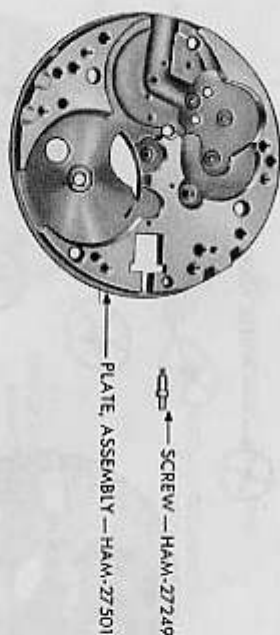

Figure 125 — Hamilton Wrist Watch — Setting Lever Screw Removed From Pillar Plate
n. **Remove Setting Lever Screw** (fig. 125). Lift setting lever screw off the pillar plate. This completes the disassembly of the movement, stripping it down to the pillar plate and leaving only the hole jewel assembly settings in place.
b. Replace Setting Lever Screw (fig. 125). Place pillar plate on proper size movement block and replace setting lever screw in its hole.